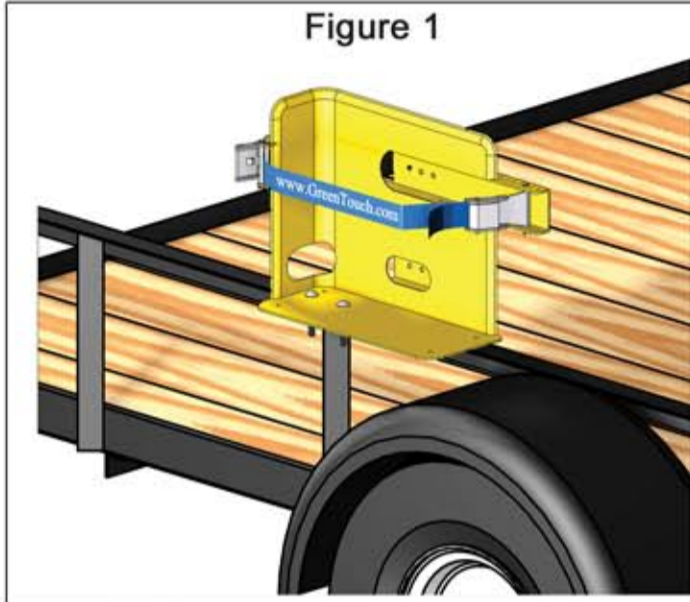

Figure 1
1. Choose a mounting location on the rail of your trailer, that is directly over an upright support (See Figure 1).